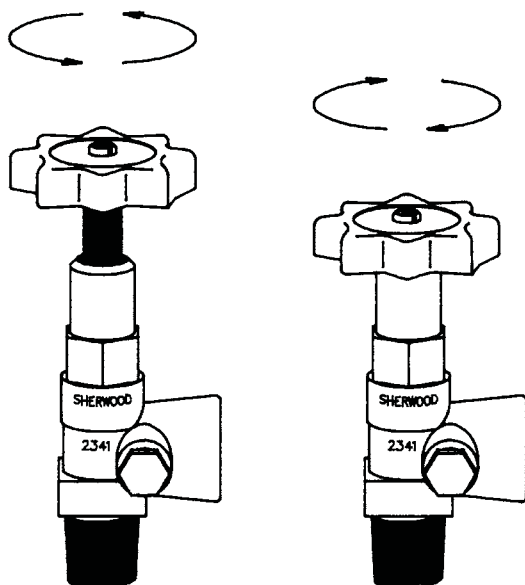

Figure 1
1. Place the adapter valve in the vise so that the valve outlet is held flat against one of the vise jaws. DO NOT OVERTIGHTEN. Overtightening the vise can distort the valve body, making it difficult to remove the poppet assembly. Should this occur, the entire valve must be destroyed so it cannot be reused. See Figures 1 & 2.